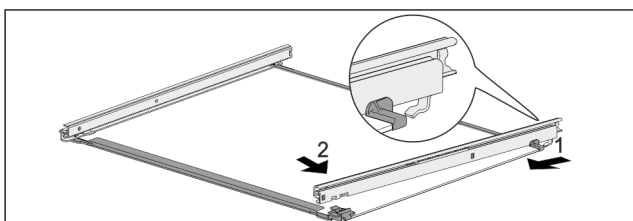

Fig. 41 Glass shelf with rails
- ▶ Hook in rail at the back. *Fig. 41 (1)*
- ▶ Hook in rail at the front. *Fig. 41 (2)*